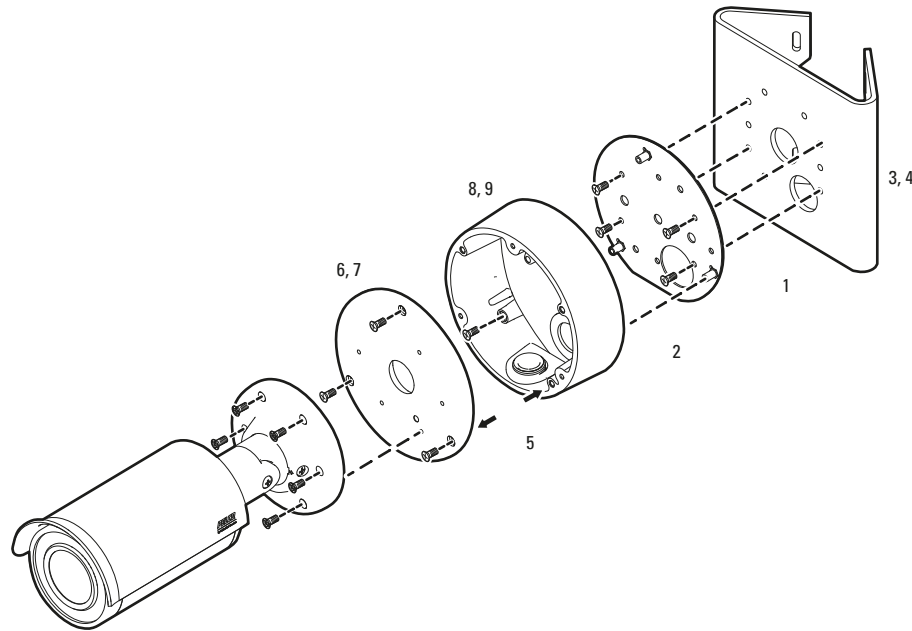

Figure 2. Indoor/Outdoor Installation with IBP3BBAP-ES Surface Mount Back Box
An adapter plate and surface mount back box are installed on the pole mount adapter as shown in Figure 2. The Sarix IBP Series Environmental Bullet Camera mounts on the back box lid and is attached to the back box. The camera cable connections are made and contained inside the back box.
5. Align the red dot inside the back box lid with the red dot on the surface mount back box (see arrows in Figure 2). Then mark the top screw of the lid to be able to orient the top of the camera with the top of the lid.